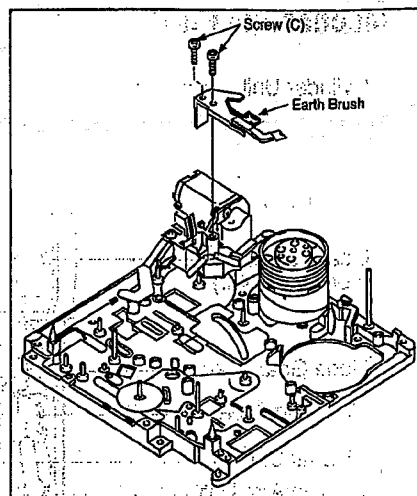

Fig. M3
| 2. Earth Brush                    | Fig. M3  | Unscrew 2 screws (C) and remove the Earth Brush.   |